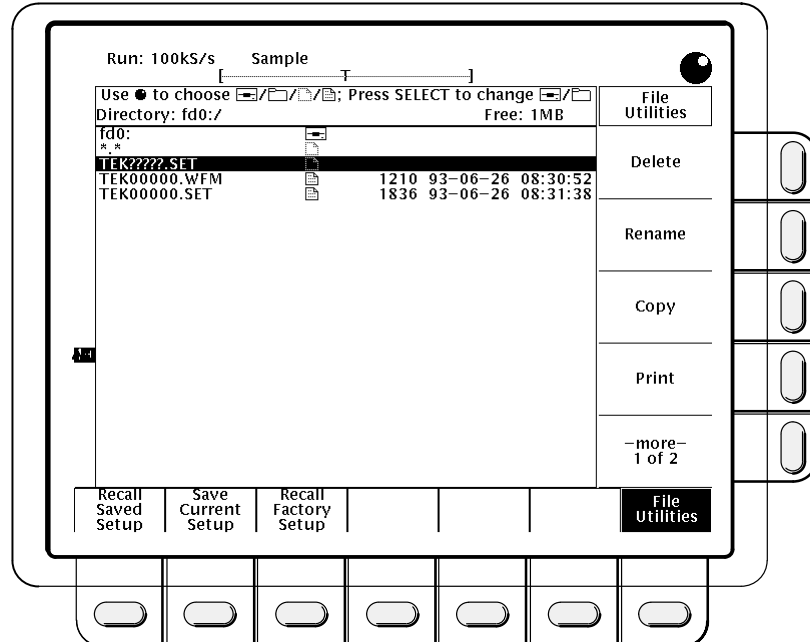

Figure 3-29: File Utilities
2. Press **File Utilities** in the main menu to bring up the File Utilities side menu. (see Figure 3-29).
*The amount of free space on the disk is shown in the upper right corner of the display. The digitizing oscilloscope shows the amount in K bytes. To convert the amount to bytes, you simply multiply the K bytes amount times 1024. Thus, the 711 kB shown in Figure 3-29 = 711 Kbytes \* 1024 bytes/K = 728,064 bytes.*